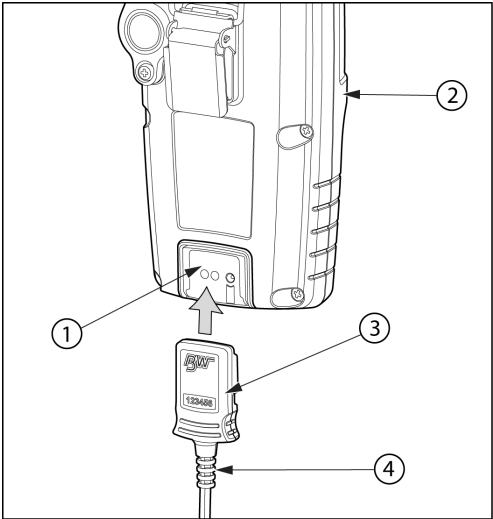

Figure 8. Connecting the Charger Adapter
To charge the battery, refer to Figure 8., Table 10. and the following procedures:
3. Attach the charging adapter (Figure 8.) to the charger interface.